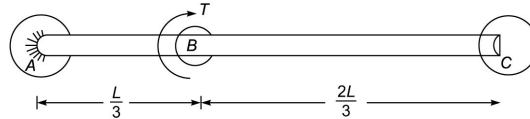

Fig. Q. 75
75. Bar AC shown in Fig Q. 75 is fixed at both ends and is subjected to a torque T at B where $AB = L/3$. Then torque at end A is